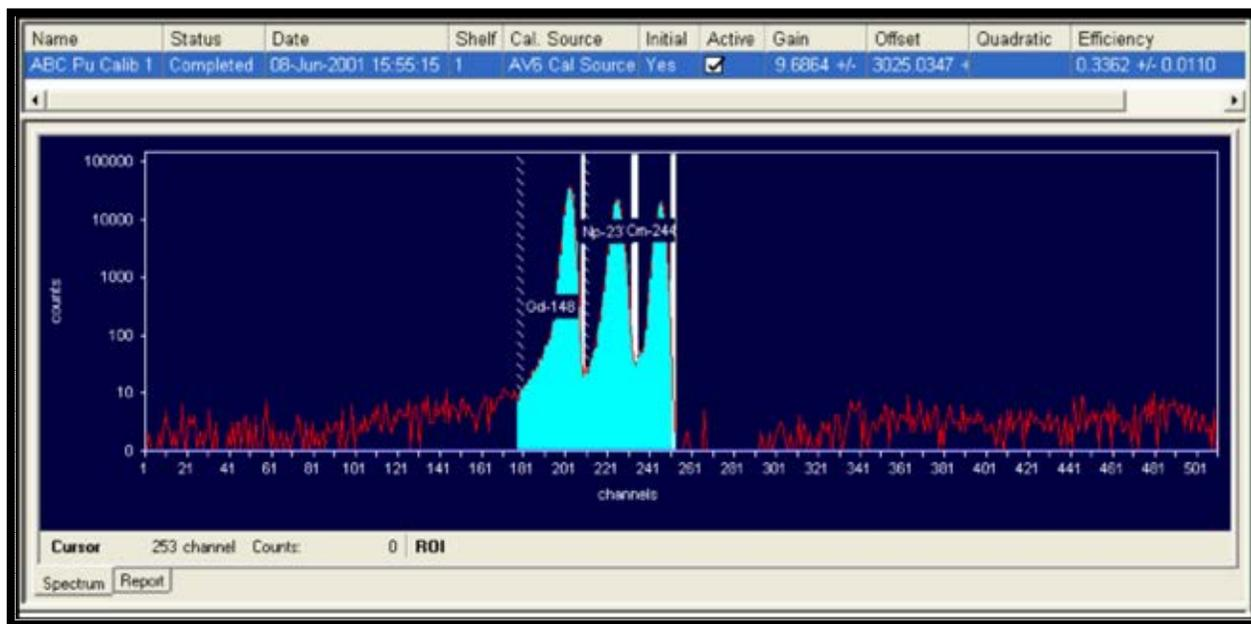

Figure 165. Spectrum/Report Window
- 17) The parameters for this **Completed** calibration are displayed in the upper Calibration Explorer Panel above the Spectrum/Report Window (Figure 165).